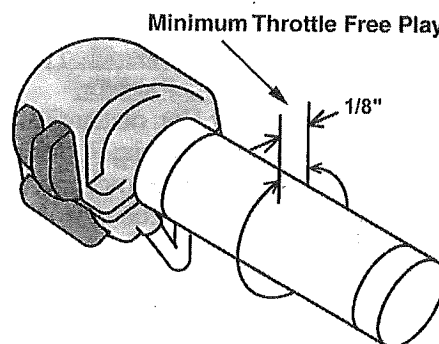

Figure 5
- After adjusting the opening cable, turn the handlebars to the right and adjust the throttle free-play with the closing cable to approximately 1/8" (Figure 5).